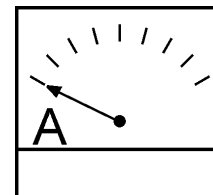

Figure 47. Ammeter (No Load)
9. The ammeter (Figure 47) will indicate **zero amps** with no load applied. When a load is applied, the ammeter will indicate the amount of current that the load is drawing from the generator.